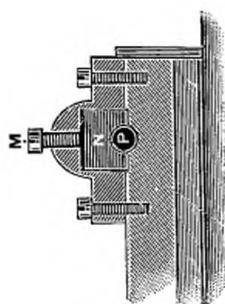
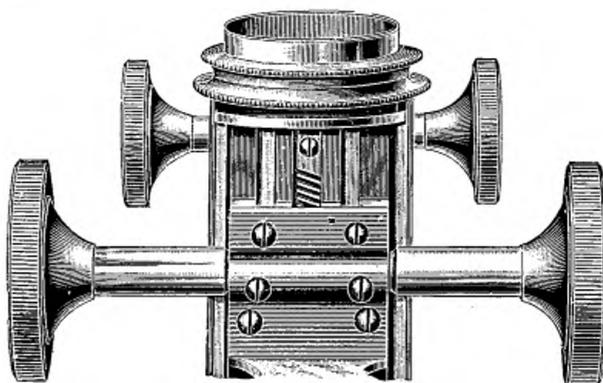

FIG. 20. Sectional View of adjustable fittings of rack and pinion.
FIG. 21. View of fitting plate of coarse adjustment.
**The Coarse Adjustment** is effected by Watson's diagonal rack and pinion, and has sufficient range for a 4-inch Objective. The pressure of the pinion on the rack is adjusted by the two screws shown in the accompanying Fig. 20. N is a block of anti-friction metal which supports the pinion shaft on each side, and it is on this supporting block that two adjusting screws act, one of which, M, is shown in Fig. 20. The most sensitive relation of pinion to rack can be established and maintained at all times. These adjusting screws are shown in position on the fitting plate in Fig. 21.